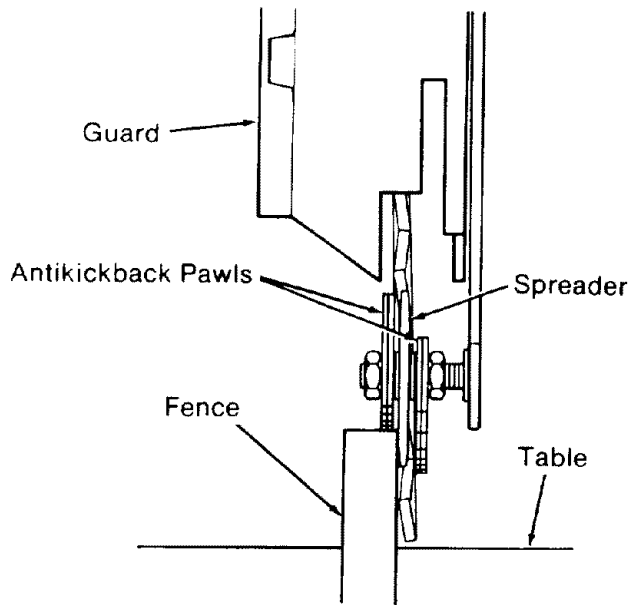

Fig. 100
11. Lower the *spreader* and *antikickback pawls* until the *spreader* is against the *fence*, and the *pawls* on one side of the *spreader* are on top of the *fence*. (Figure 100)